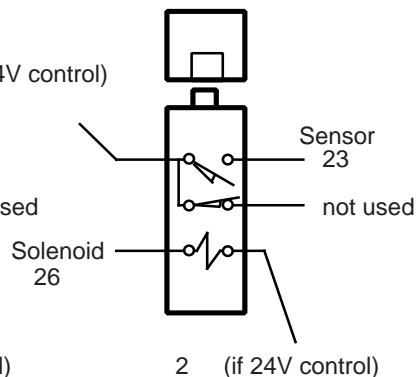
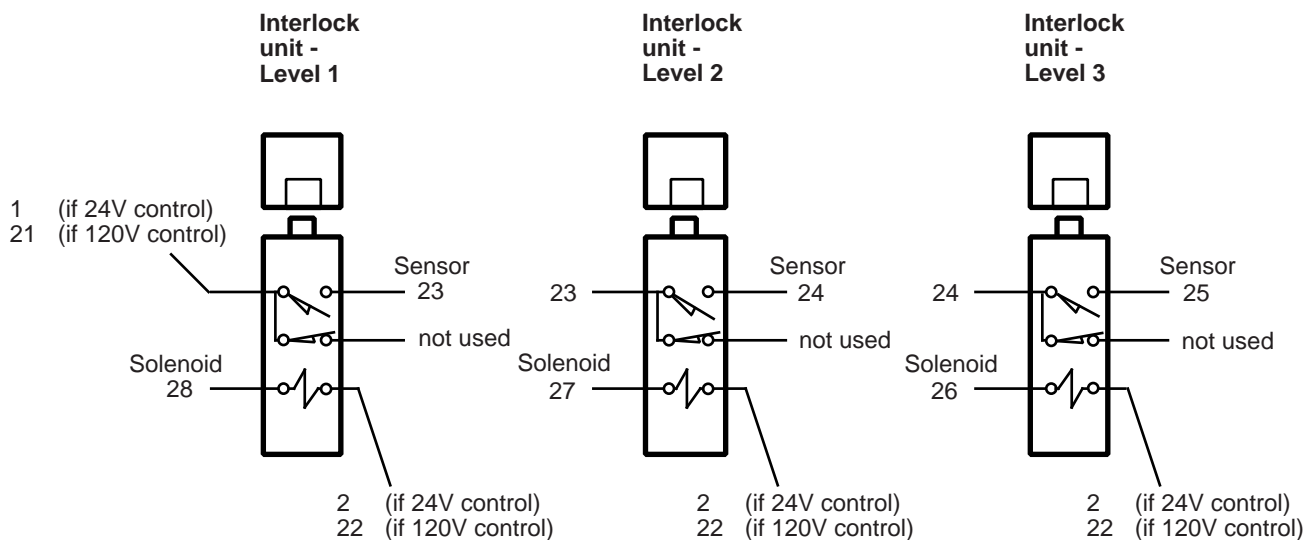

Fig. 2-8 – Pushbutton Station and Interlock Connections – Two-Level Unit
Fig. 2-9 – Pushbutton Station and Interlock Connections – Three-Level Unit
- Figure 2-8 shows the connections for a two-level lift. For a three-level lift, see Fig. 2-9. Run each control wire from the pushbutton station to the main control panel. Use 16 AWG wire for all control wiring (supplied by installer). Wire in the pushbutton stations according to the applicable codes. For the best possible protection against accidental damage to the wires, run the wires through metal conduit.
8. To connect the interlock units, match the number on each wire with the terminal on the terminal strip. For a two-level unit, see Fig. 2-8. If you have a three-level unit, see Fig. 2-9.